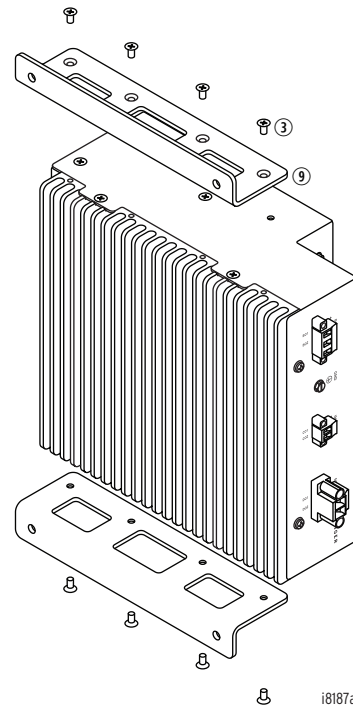

Figure 4 Removing/Installing Wall-Mount Brackets
- Step 5. Use eight (8) #8-32 flathead screws ③ to install the two (2) wall-mount brackets ⑨ (see *Figure 4*). Torque screws to a minimum of 1.2 Nm (11 in-lb) and a maximum of 1.4 Nm (12 in-lb).